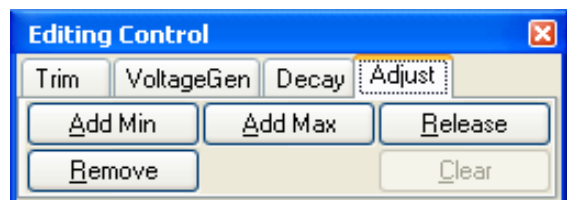

Figure 25: Edit Control Window
- a. To remove any peak (**Min** or **Max**) from the analysis, click **Remove**, place the cursor over the peak line you wish to eliminate, and click the Left mouse button. (Figure 25)
7. Once you are generally satisfied with the number peaks click **Release** in the **Edit Control** window (Figure 25) to initiate detailed analysis of the data.